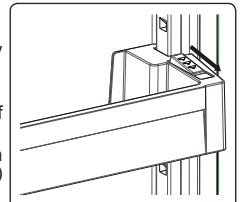

Fig. 1
Hold the bottom of the shelf and pull the buttons on the side of the door shelf direction of arrow. (Fig.1)
1. Press the hooks on light cover. (Fig. 1)
1. Remove the screw on the light cover by screw driver. (Fig.1)